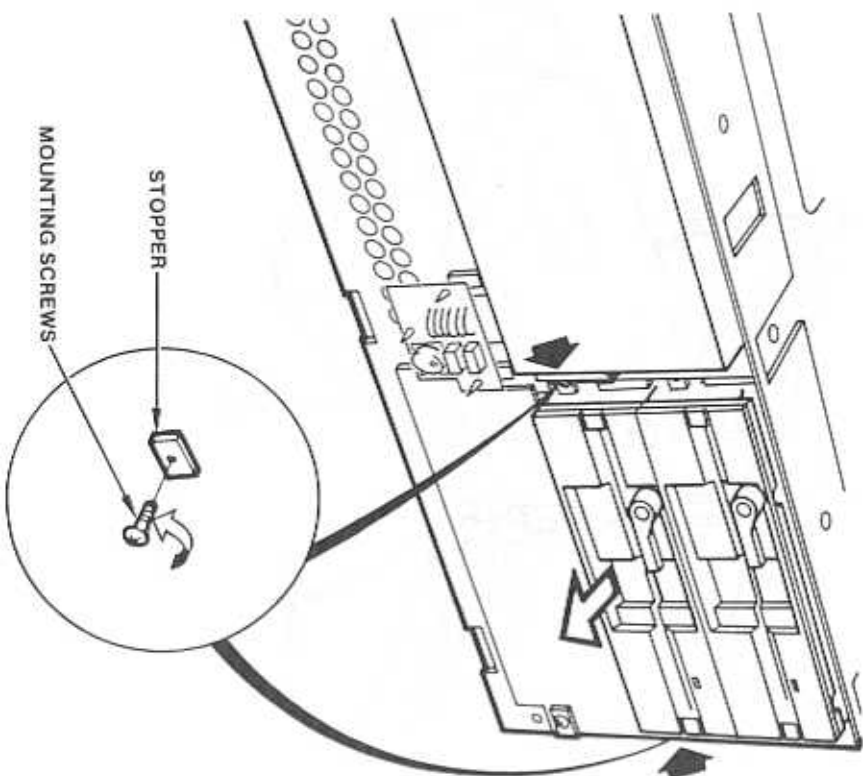

Figure 11-20. Drive B Removal
4. If you have two flexible diskette drives, remove the lower diskette drive (drive B). Unhook all cables. Remove the two mounting screws on either side of the faceplate. Slide the diskette drive out of the slot (Figure 11-20).